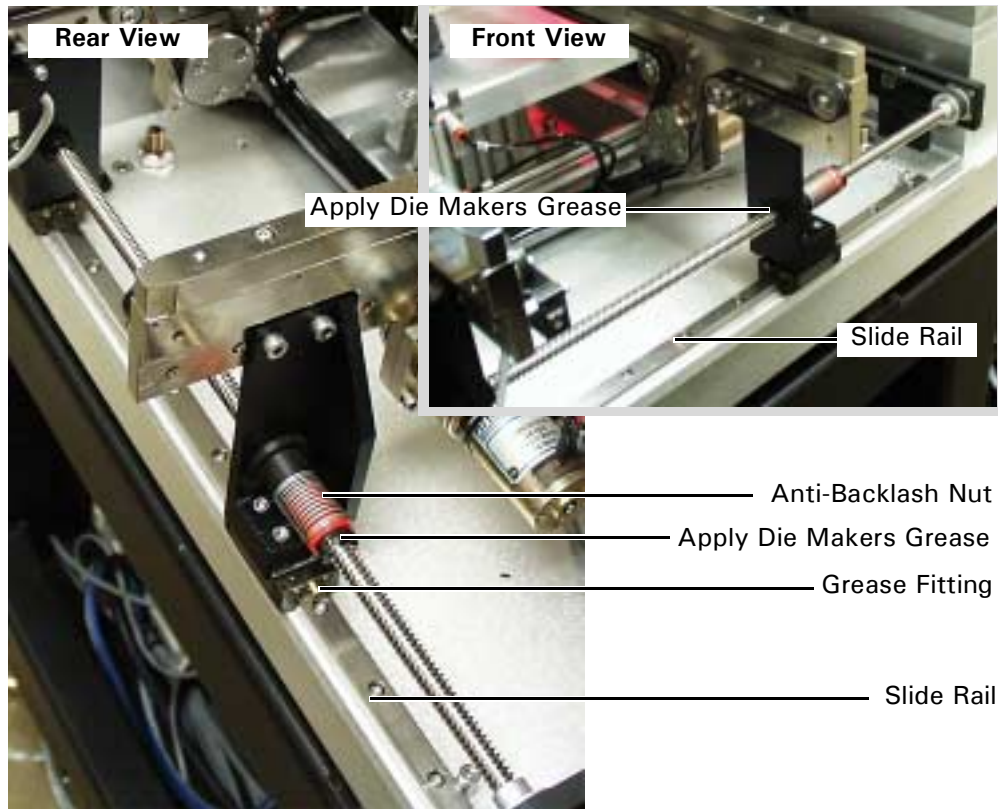

Figure 3-5
1. Using a clean cloth, remove all dirt and residue from the conveyor width screws and anti-backlash nuts. See Figure 3-5.
The conveyor slide rails should be wiped clean and lubricated monthly. The rear conveyor slide rail bearings should be lubricated every 6 months using only **THK** type “**AFB**” grease. See Figure 3-5. Lubrication of the front slide rail bearings is unnecessary since the front rail is fixed.